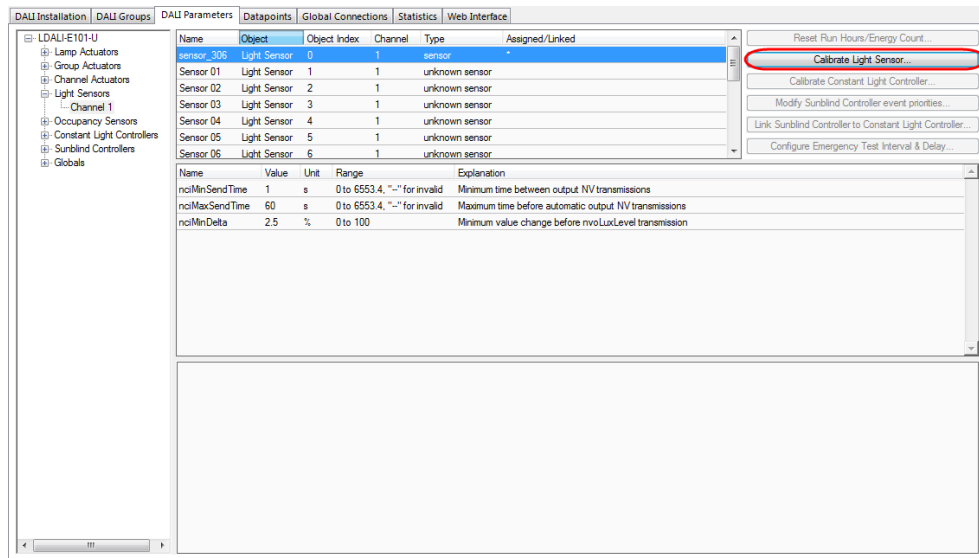
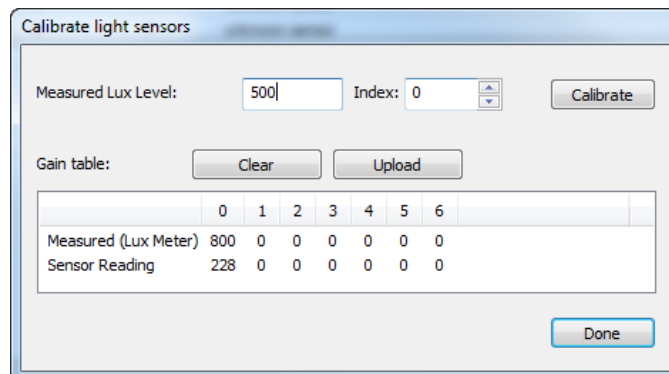

Figure 42: Parameterize Light Sensor.
Figure 43: Calibrate Light Sensor.
- Select the light sensor index 0 and click on the **Calibrate Light Sensor...** button as shown in Figure 42. The light sensor calibration window as shown in Figure 43 is displayed.